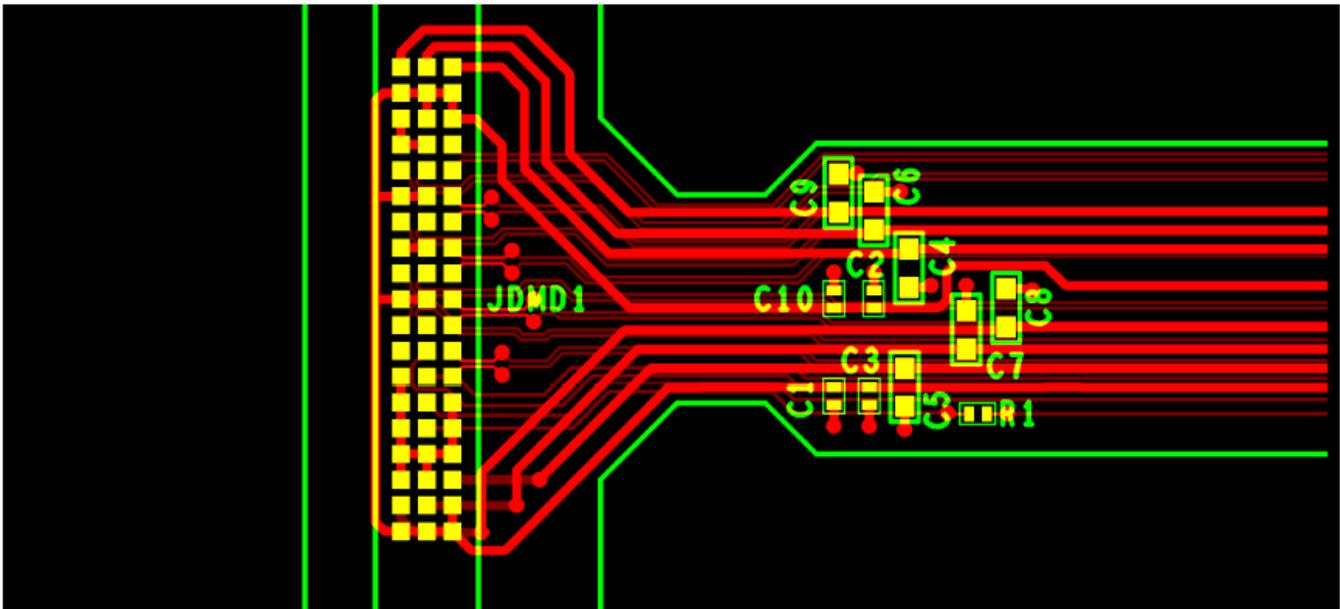

Figure 16. Power Supply Connections
- Minimize vias, layer changes, and turns for the HS bus signals. Refer Figure 16.
- Place a minimum of two 220-nF decoupling capacitor close to VBIAS. Capacitor C3 and C10 in Figure 16.
- Place a minimum of two 220-nF decoupling capacitor close to VRST. Capacitor C1 and C9 in Figure 16.
- Place a minimum of two 220-nF decoupling capacitor close to VOFS. Capacitor C2 and C8 in Figure 16.
- Place a minimum of four 220-nF decoupling capacitor close to VDDI and VDD. Capacitor C4, C5, C6 and C7 in Figure 16.